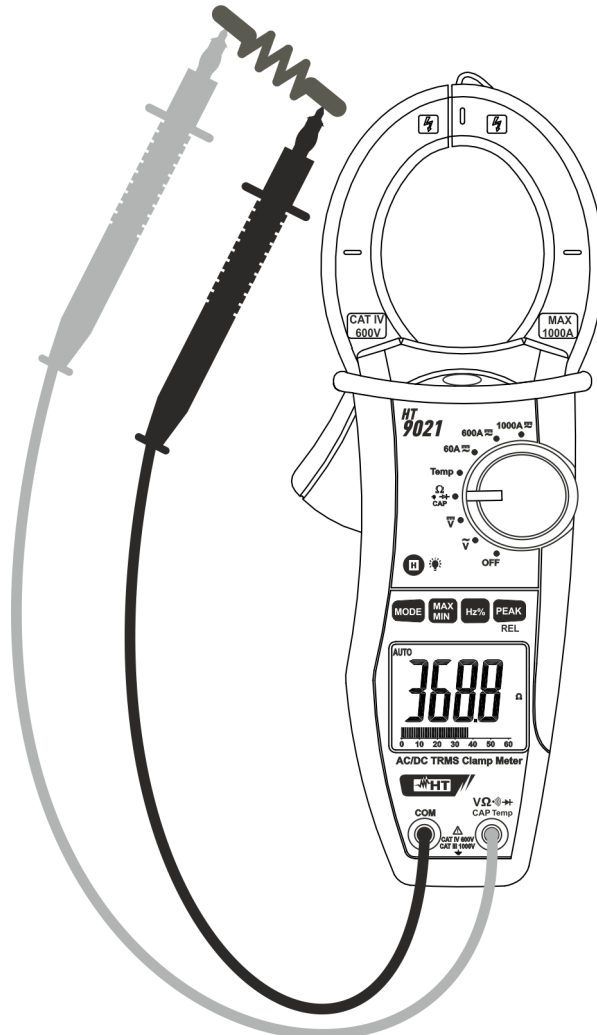

Fig. 5: Taking Resistance measurement
2. Insert the red test lead plug into  $V\Omega \cdot \text{CAP Temp}$  jack and the black test lead plug into **COM** jack (Fig. 5)